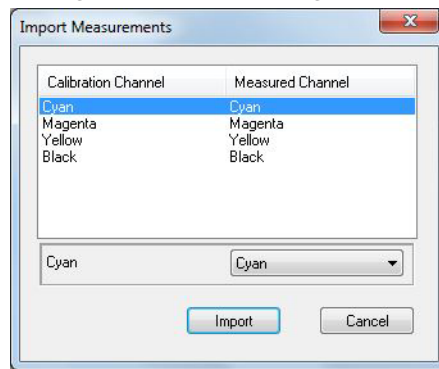

Figure 12.6 Import Measurements dialog box
- Import** To import the data from a file rather than typing numbers into the boxes, click the **Import** button. The RIP displays the Import Measurements dialog box, shown in Figure 12.6.